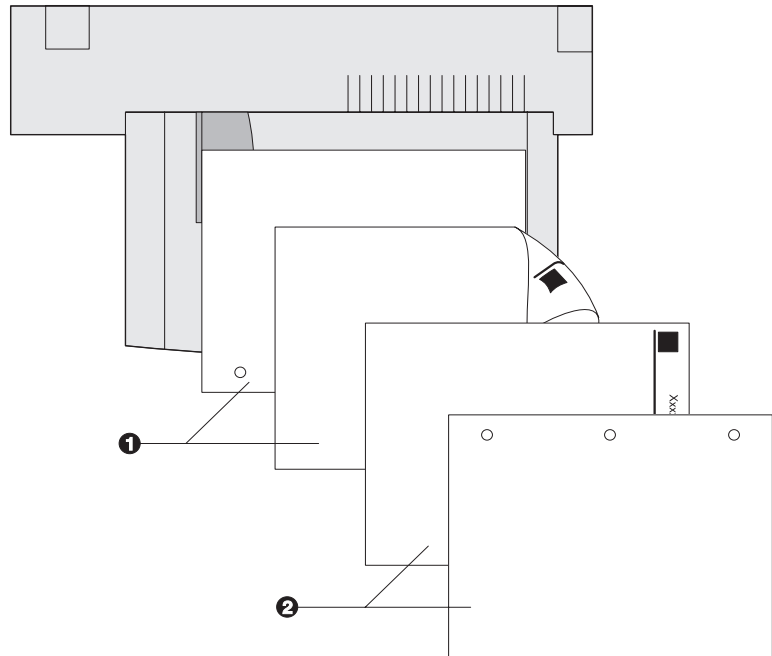

Figure 2.5 50 Sheet Bypass Feeder paper orientation (short edge feed)
- 2 Place the paper along the right side of the Bypass Feeder (refer to Figure 2.4 on page 2-19 and Figure 2.5 on page 2-20 for paper orientation, and to Figure 2.6 on page 2-21 for envelope orientation).